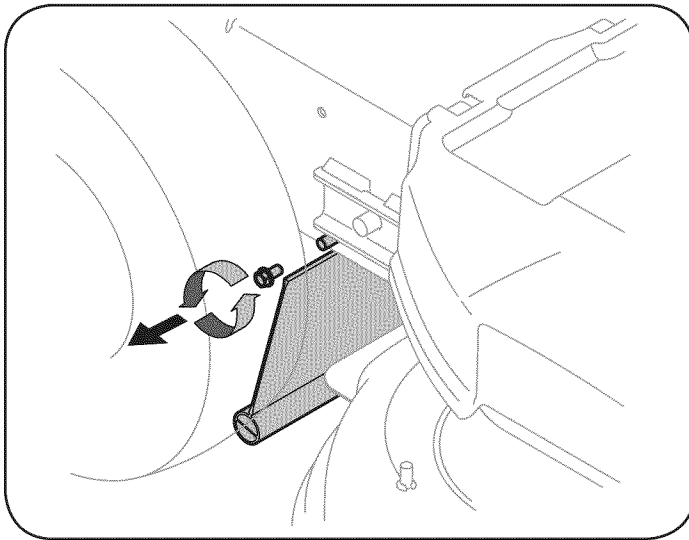

Figure 28
1. Remove the screw which secures the trail shield to the right side of the mower. See Figure 28.